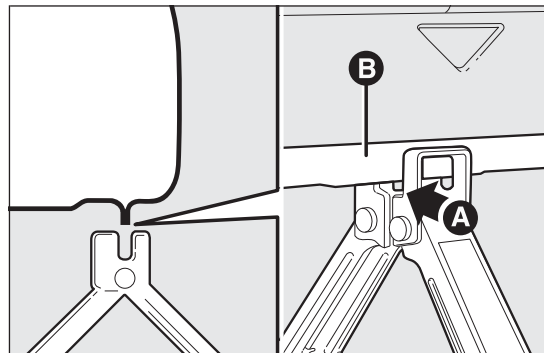

fig. 123
- ❑ turn the jack to open it until the groove A fig. 123 of the jack is correctly inserted in the lower profile B on the side member: